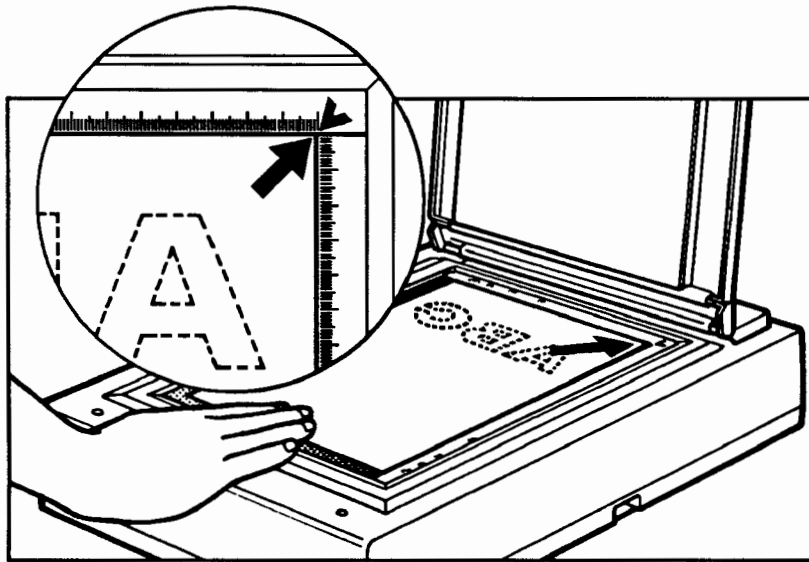

Figure 4-10. Placing the Test Target on the Copyboard
3. Place the test target squarely against the scaled frame of the copyboard with the image of the kitten against the glass and the orange arrows aligned as in figure 4-10.